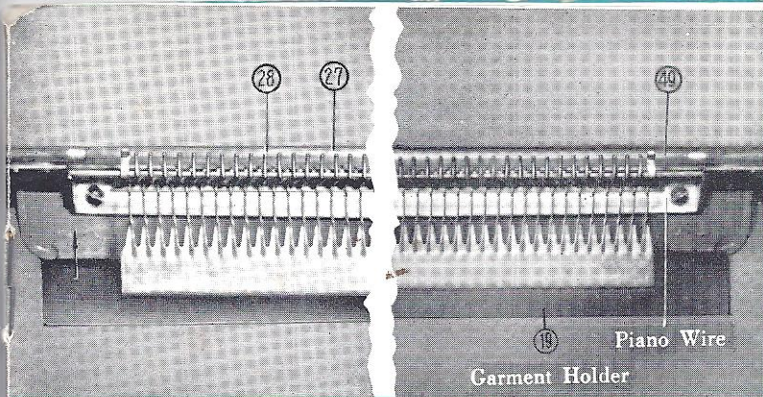

Fig. 9
1. Pass the yarn through the Yarn Feeder, and slide the Carriage Assembly on either side of the Extension Rails. Draw out the required numbers of the Latch Needles to the position of Yarn Feeder by the Needle Lifter (17) so that the needle-heads may be in line with the Yarn Comb Teeth (28).
2. Place the piano wire of the Garment Holder (19) on the Garment Holder Base (49) locating at the both ends of the Yarn Comb (27). Hold by left hand the Needle Lifter and the Yarn Comb Teeth (28) to match well each other, and use the right hand to slide the Carriage Assembly on the rails by gripping its handle like Fig. 7. (See Fig. 9 & 10 also).